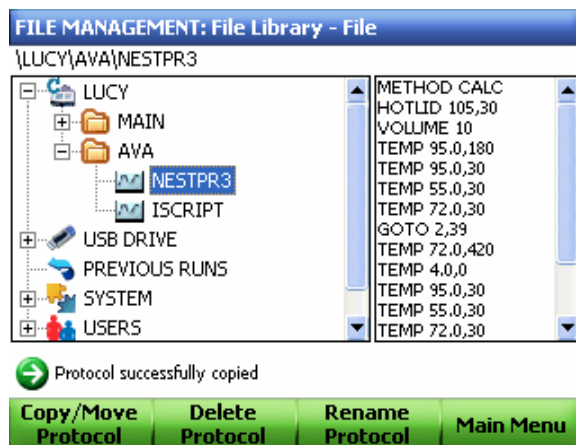

Figure 91. The protocol was successfully copied.
6. Select **Yes** to confirm that the protocol was successfully copied (Figure 91).